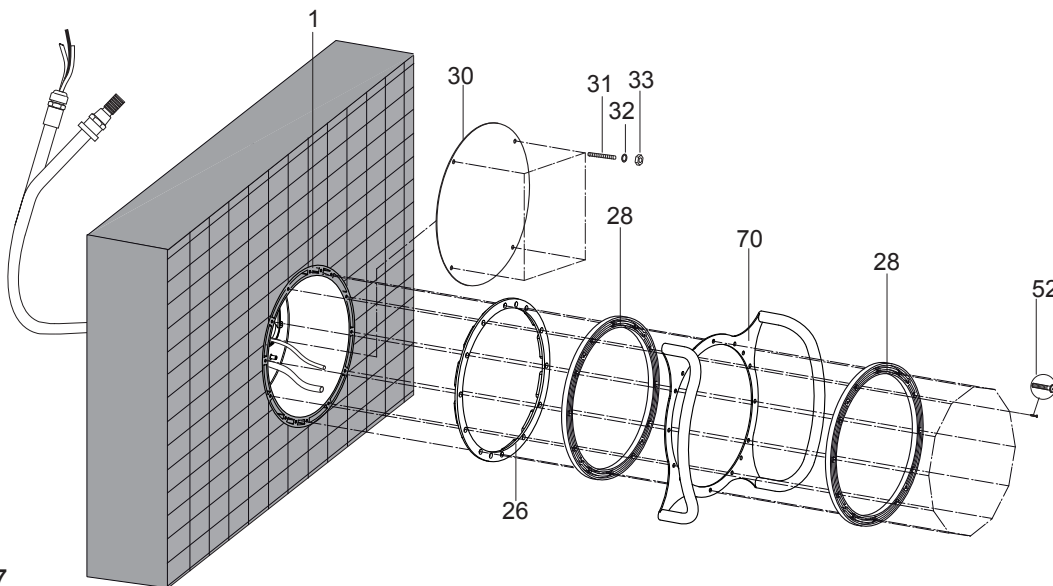

Figure 7
- **Tiled pool:** The tile thickness may be compensated with an additional clamping ring and longer clamping screws (optional parts). (See Figure 7)
- **In a tiled pool:** The tile thickness may be compensated with an additional clamping ring and longer clamping ring screws (optional parts). (See *Figure 7*)